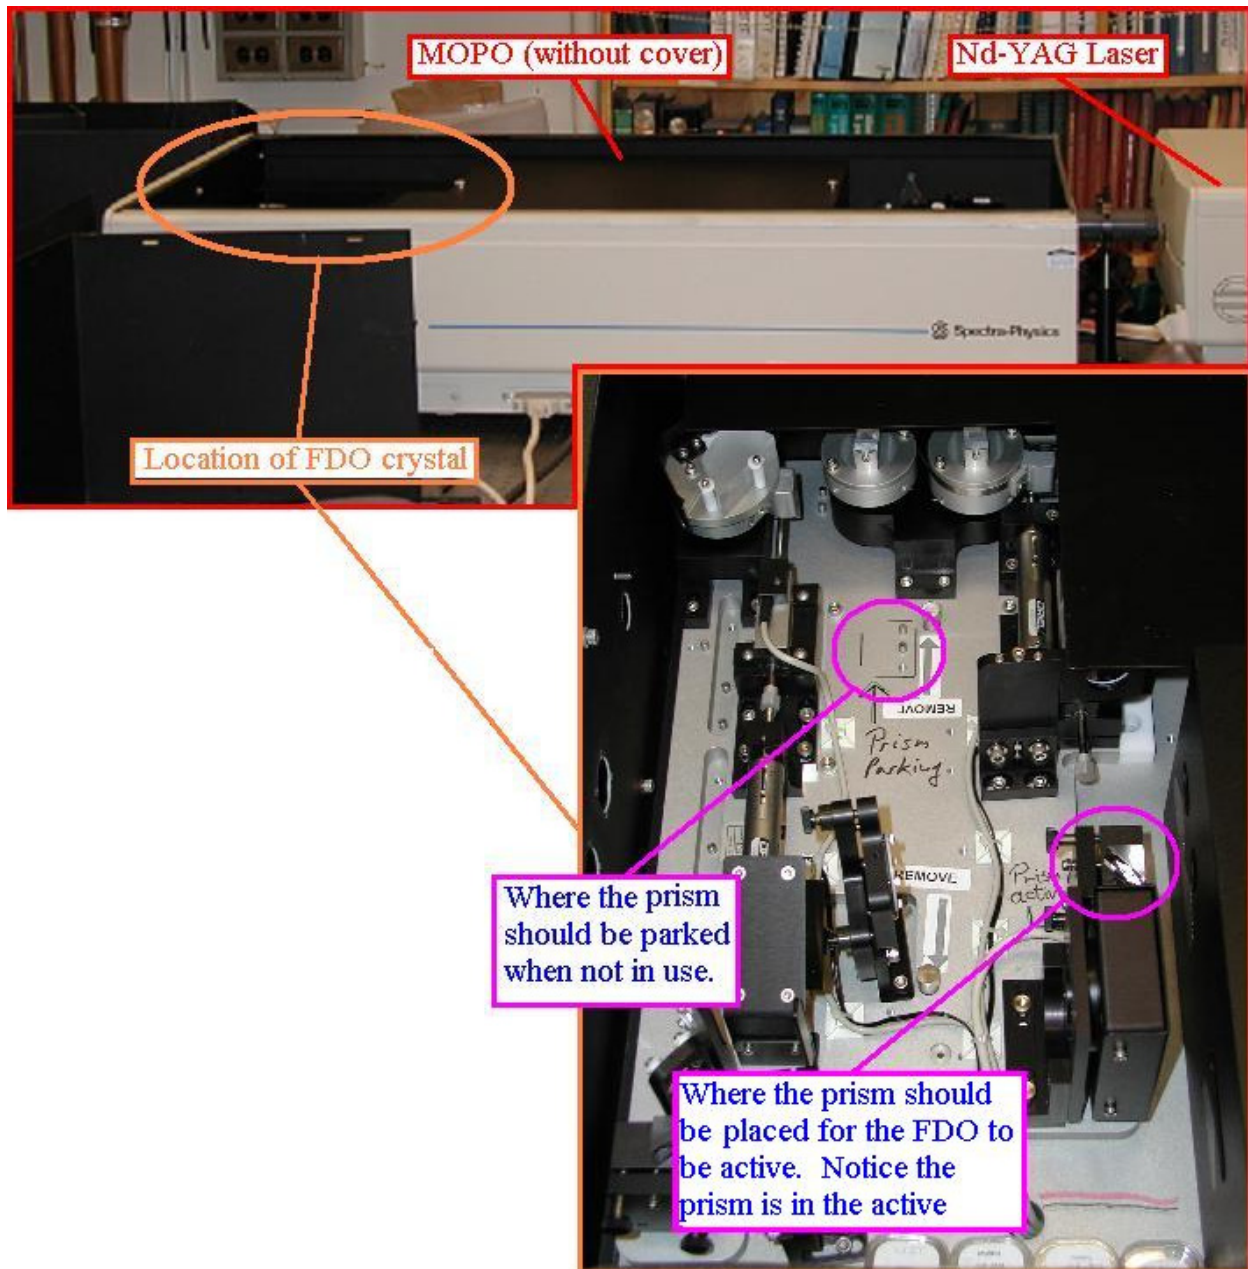

Figure 12: Shows location of prism that activates the FDO crystal. Note the two parking position of the prism.
- From Page 1, decide if running with or without FDO. If the FDO needs to be used, place the prism unit inside the MOPO in the beam path (label: prism active). If the FDO is not to be used, physically remove the unit. (See Figure 12) Refer to the MOPO-SL manual for more instructions. When working on the prism, switch Nd-YAG to “Run LP”, or better yet, “OFF”!!! Eye protection at 1068 nm!!
1. **Inside the MOPO, physically place the prism into the “Prism Active” position.** (See Figure 12) Note: It is best to have Nd-YAG laser off before removing the FDO unit. Otherwise, putting the laser under “RUN LP” should be sufficient as long as laser safety goggles are worn at 1068 nm.
1. **Physically place the prism into the “Prism Park” position.** (See Figure 12) This is because the prism physically blocks the Signal regimes beam path.